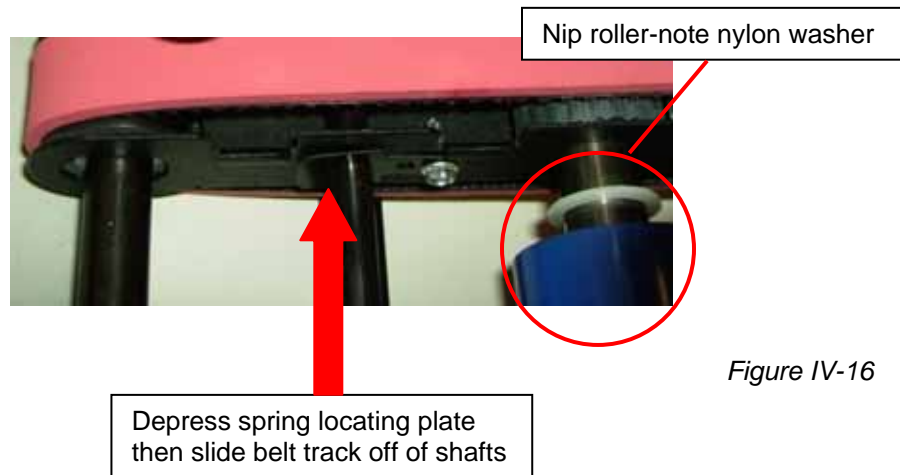

Figure IV-16
- c. Remove belt track assemblies by depressing spring locating plate on side of belt track and then sliding belt tracks off shafts. See figure IV-16.